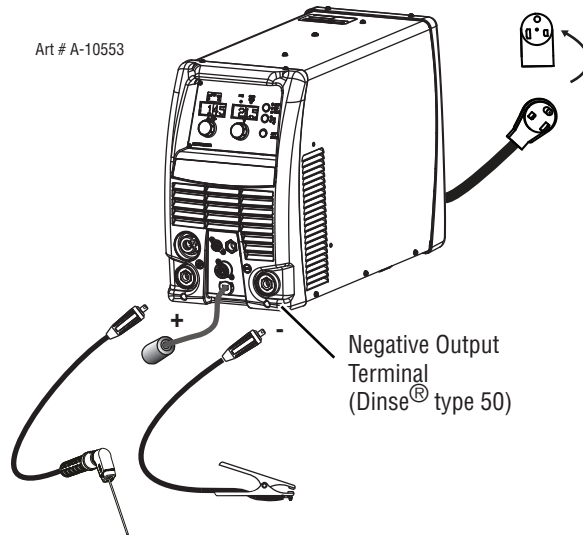

Figure 3-24: Setup for STICK Welding reverse polarity shown.
2. Attach the STICK and Work Leads as shown in Figure 3-24.